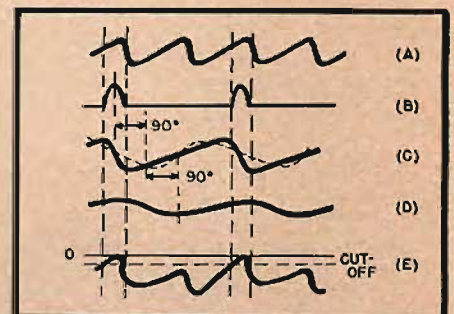

Fig. 2.
We can analyze the operation now in a detailed manner. *Figure 2* shows waveforms at various points in the circuit. The input waveform shown at (A) is a sawtooth from the previous divider. If we assume initially (leaving the proof until later) that the tube conducts during the peak period of every other input wave, then the plate-current waveform is as shown in B, with pulses at half the input frequency. The solid line at C shows the plate voltage, which is the voltage across the charging and discharging capacitor C_1 .
Feedback from the plate takes the path through C_2 , a large-value blocking capacitor with negligible reactance, and the series combination of R_2 and C_2 . The R_2 - C_2 combination is obviously a low-pass filter or simple integrating network, and it has two effects. The harmonic content of the fed-back sawtooth is attenuated so that what appears across C_2 —and the grid—is almost a sine wave. This sine wave is the fundamental component of the plate sawtooth as shown in the dashed line at (C) in *Fig. 2*. Second, it introduces an additional lag of almost 90 deg., so that the voltage actually reaching the grid is of the shape and phase indicated in (D).